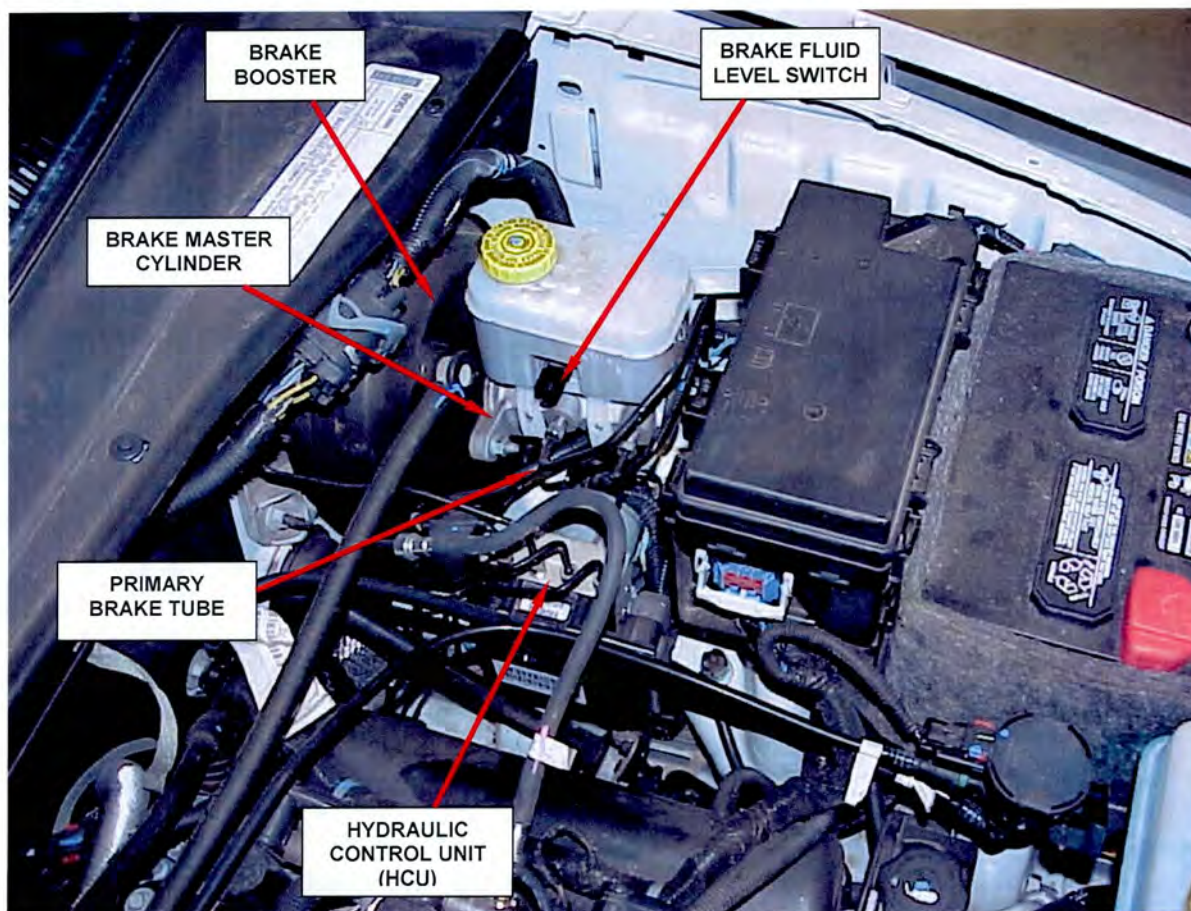

Figure 5 – Component Location
3. Disconnect the brake fluid level switch at the brake fluid reservoir (Figure 5).
4. Disconnect the primary brake tube at the master cylinder (Figure 5).
5. Disconnect the primary brake tube at the HCU (Figure 5).